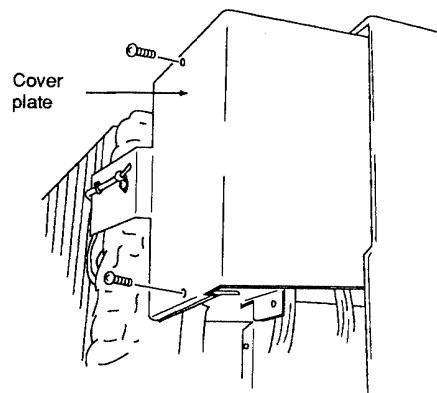

Fig. 18
- Unscrew the cover plate of the electrical component box. (Fig. 18)